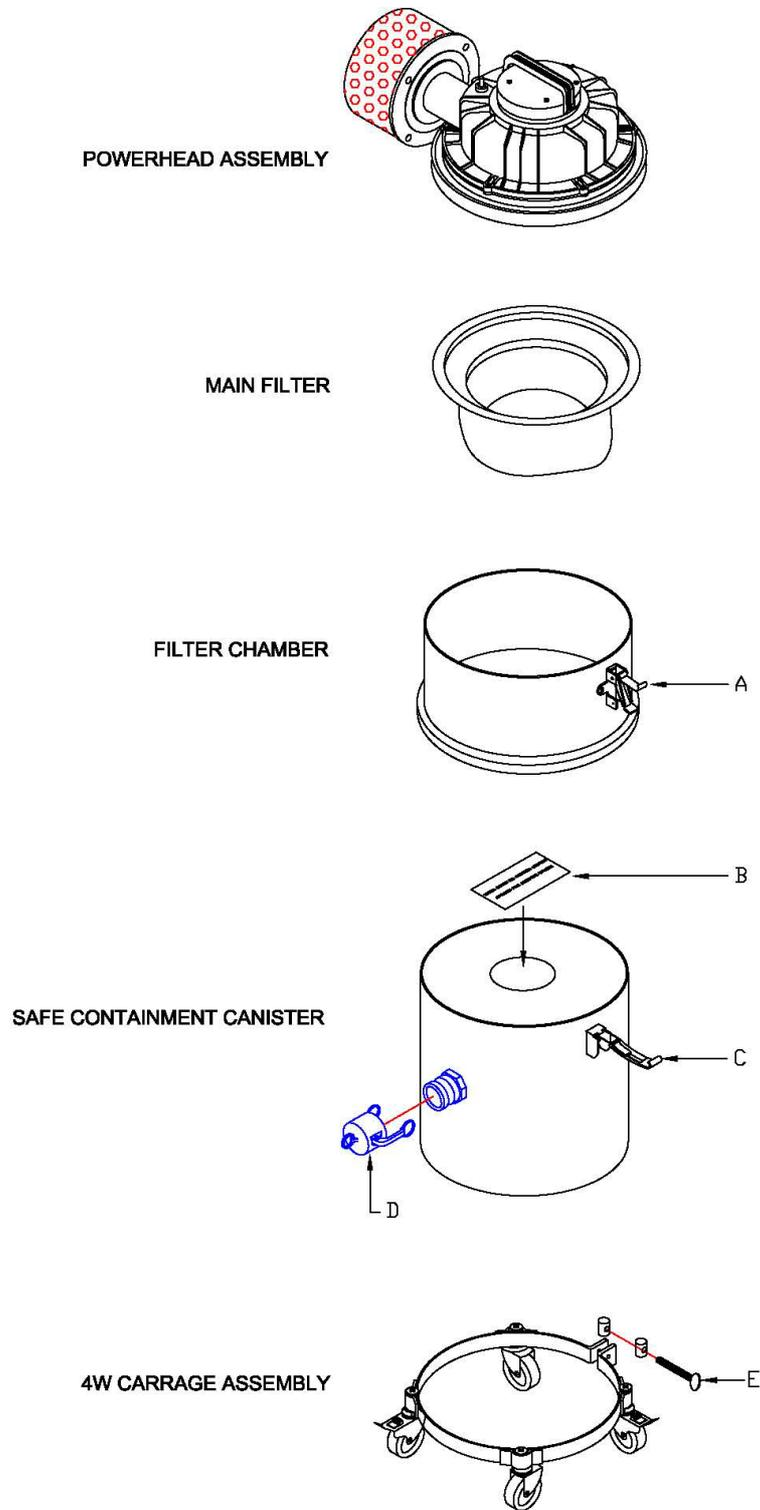

Fig. No. 3
2. Tighten dust cap (**See "D" on Fig. No 3**) on suction intake of the safe containment canister
3. Loosen the 4W carriage assembly by untightening spade-head thumb screw (**See "E" on Fig. No. 3**)
4. Disengage latches (**See "A" on Fig. No. 3**) and remove power head from filter chamber assembly.
5. Disengage latches (**See "C" on Fig. No. 3**) and remove filter chamber assembly from safe containment canister.
6. Use the supplied adhesive label (**See "B" on Fig. No. 3**) to seal the top of the safe containment canister prior to disposal.
1. Place new safe containment canister on 4W carriage assembly and tighten spade-head thumb screw (**See "E" on Fig. No. 3**)
3. Place filter chamber assembly on safe containment canister and engage latches. (**See "C" on Fig. No. 3**)
4. Place power head on filter chamber assembly and engage latches (**See "A" on Fig. No. 3**)